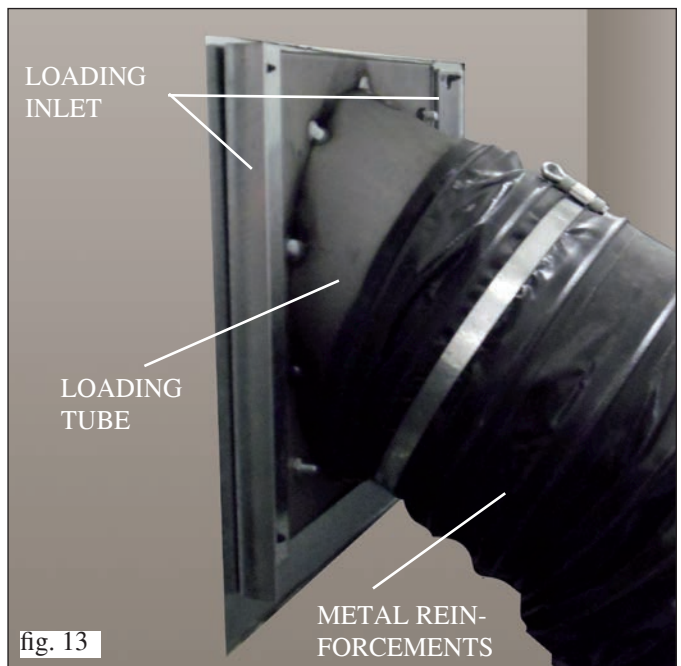

fig. 13
- Secure the loading inlet to the mantel using the self-tapping screws supplied, using the holes on the mantel frame; reinforce the plasterboard, attaching metal profiles on the rear (fig. 13).
### INSTALLING THE LOADING TUBE (fig. 13 and 14)
- Secure the flexible tube to the outlet on the loading inlet using the clamps supplied (fig. 13)